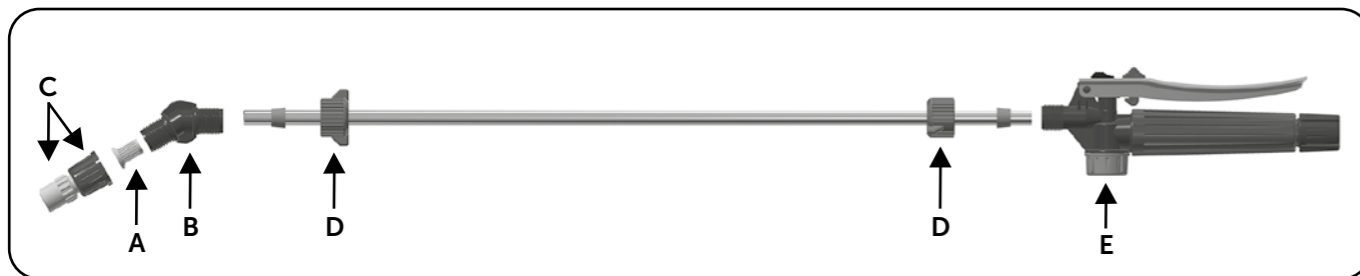

Figure 7. Spray boom assembly sequence.
Remove the set, spray boom and nozzle from the packaging inside the equipment box and proceed with the assembly as described in the steps below (Figure 7):
**Lubrication of Super 3 discharge valve (Figure 18):** Disengage the items D and E (Figure 7 ) and through one of the apertures add 3 drops of engine oil at the exit of valve (Figure 18) allowing the lubrication of the entire needle valve assembly (item 65).